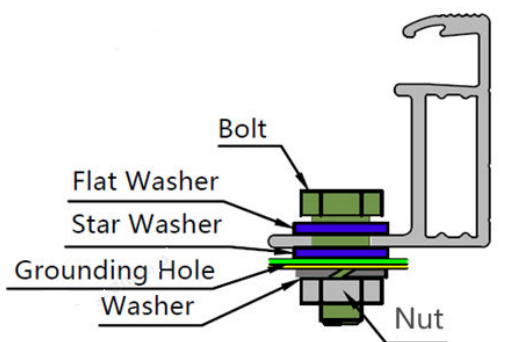

Fig. 11 Grounding of PV modules
- i) JinkoSolar recommends two types of grounding: bolted grounding, shown in Figure 11, and clamp grounding.